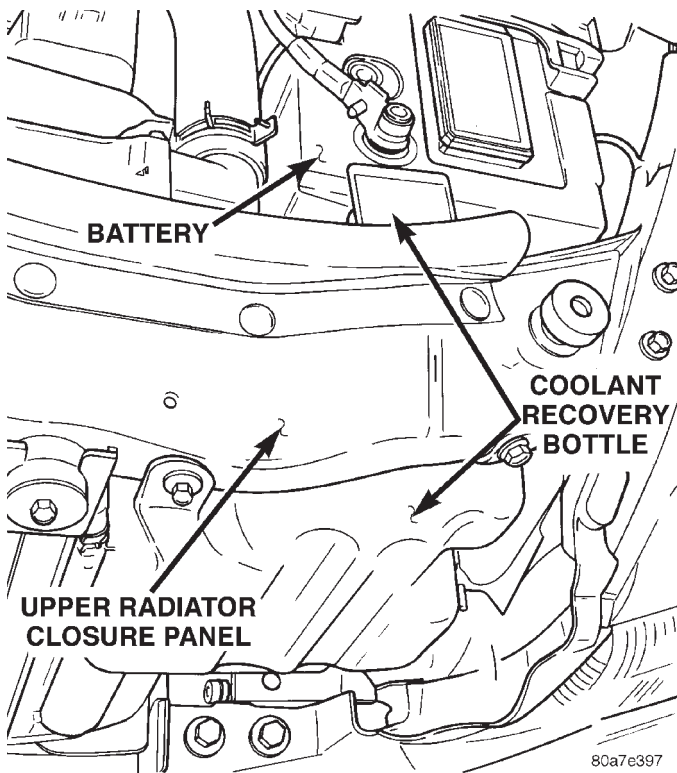

Fig. 21 Coolant Recovery Bottle
- (1) Remove battery positive and negative cables and battery.
- (2) Remove upper radiator closure panel (Fig. 21).
- (3) Remove overflow hose at reserve/overflow tank.
- (4) Remove three (3) coolant recovery bottle screws and remove coolant recovery bottle from vehicle.